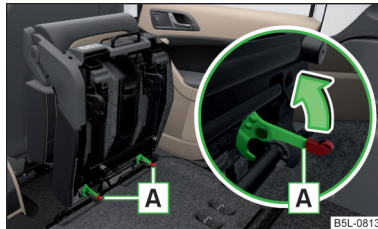

Fig. 65
- › Lock the folded forward seat by pressing the seat locks **A** in the direction of arrow » Fig. 65.
- › If the seat has been removed, first position it on the guide and lock it in place using seat locking **A** » Fig. 65 on page 73. Pull the seat upwards to ensure that the seat is locked correctly.